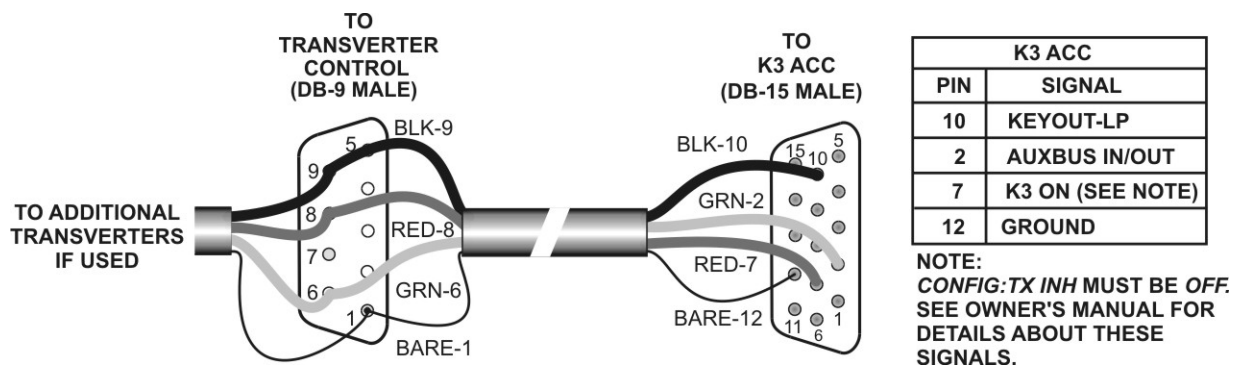

Figure 3. K3 Control Cable Wiring.
If you are integrating two or more transverters into the station at this time, cut a length of cable to reach from the first transverter to the next transverter in a daisy-chain arrangement (see Figure 3).
- Solder the wires to the connectors as shown in Figure 3.